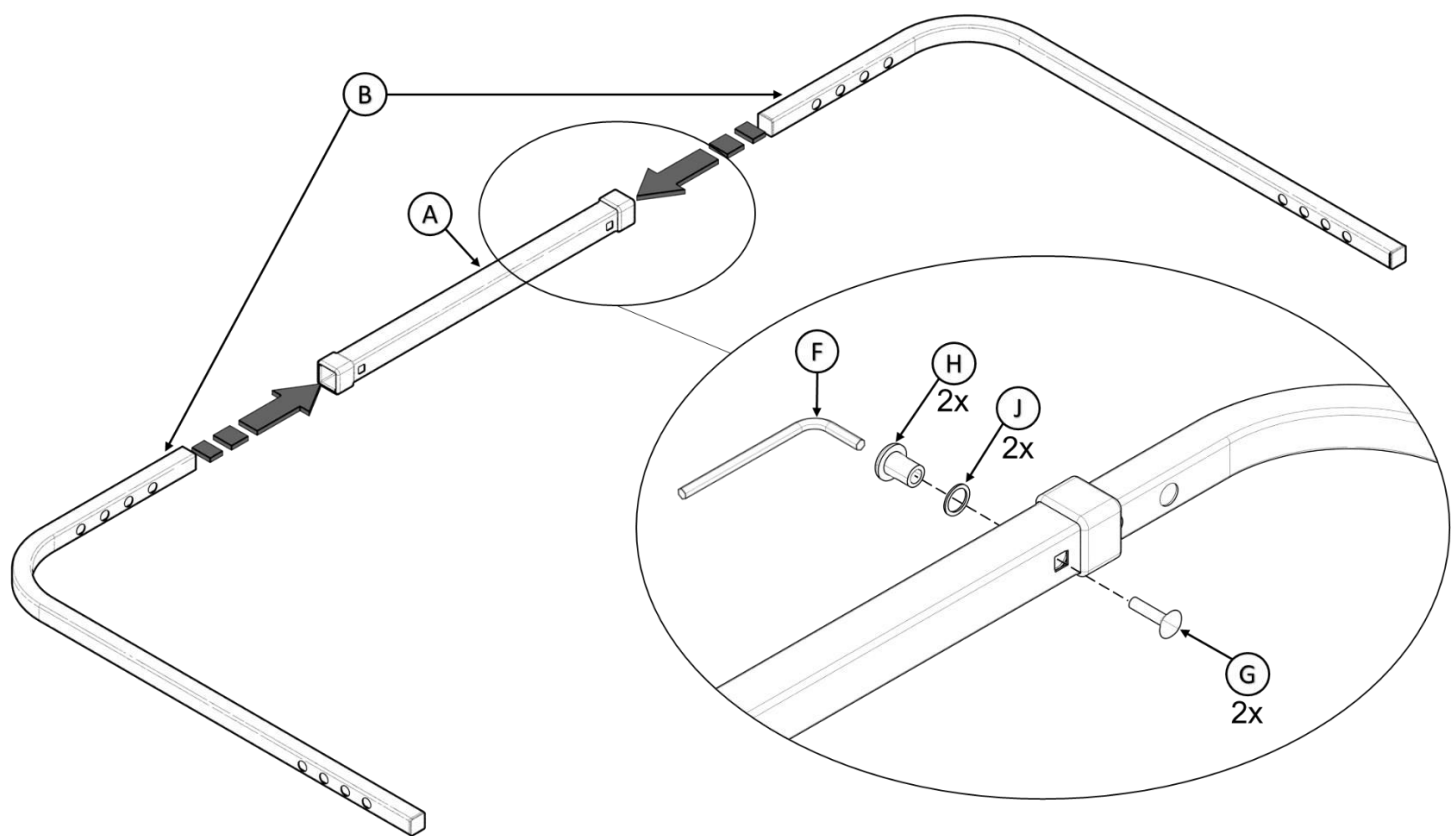

**FIGURE 2**
2. Note: This step determines handle width, do not exceed width of chair. Insert **B** into **A** making sure the square hole in **A** is facing inward as shown in *FIGURE 2*. Align holes and insert **G**, **J** and **H** and secure with **F**.